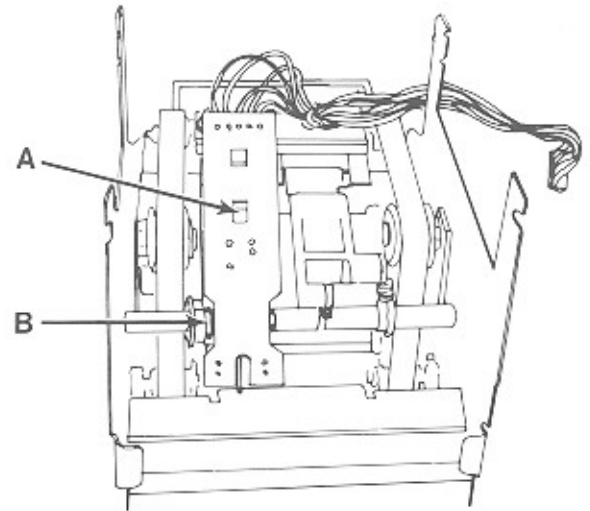

Figure 4-8B. Mounting The Assembly
2. Check to see that the catch is hooked over the board (A) and the board is setting in the recessed area on the shaft (B) (see figure 4-8B).